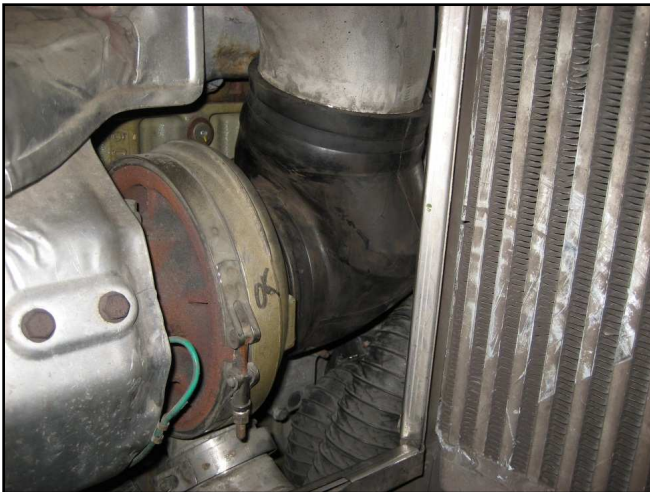

Figure 3
- 3) Remove the rubber hose at the turbocharger (Figure 3).